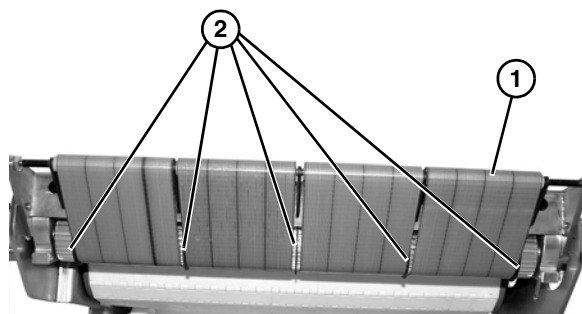

Figure 13
*Before running power transfer, be certain that belts (**Figure 13, item 1**) are not riding on spacers (**Figure 13, item 2**).*